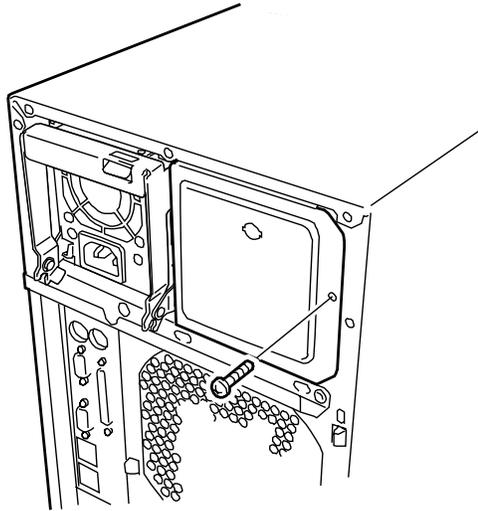

Figure 4-26. Loosening the Blank Cover Retaining Screw
Your server may contain a modular hot-swap power supply like the one shown in Figure 4-26. The addition of a second hot-swap power supply makes your system so that it has redundant power and can be operated continuously without interruption if either of the power supplies malfunction.
2. Loosen a screw securing the blank cover to remove the cover from the chassis. Remove the cover and save it for future use. See Figure 4-26.